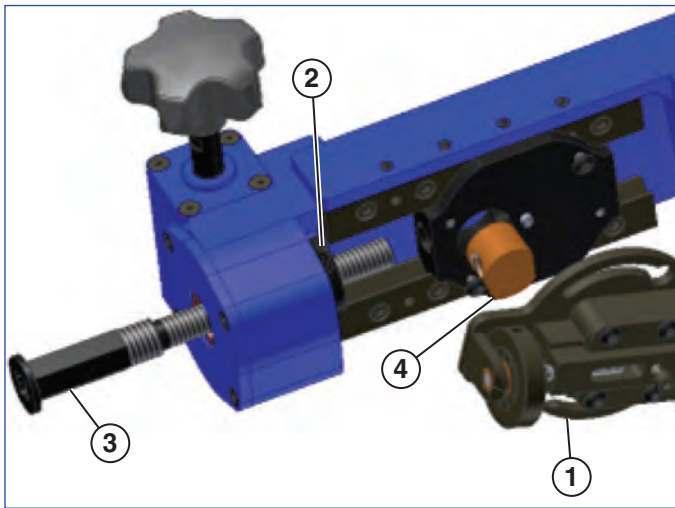

Figure 6
4. Two feed screws are provided with the QuickFace. If the surface finish is 125 – 250 microinches (3,18 – 6,35 μm), use the $\frac{1}{2}$ – 11 feed screw. If the surface finish desired is 60 – 100 microinches (1,52 – 2,54 μm), use the $\frac{1}{2}$ – 20 feed screw. **See Figure 6 .**